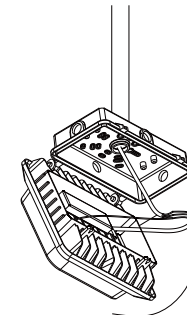

Figure 1-6
6. Turn the radiator up then cover the driver box, Figure 1-6